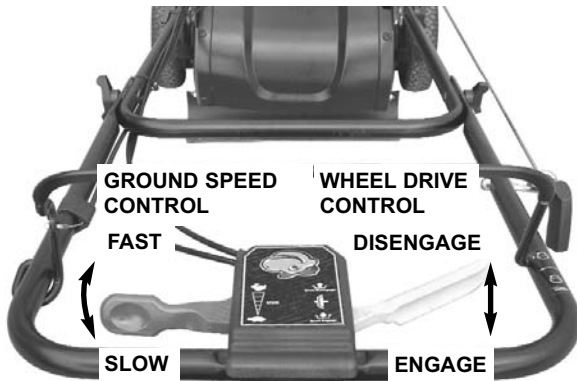

FIGURE 2.6
2. Move ground speed control to the desired speed position. See Figure 2.6.
3. Squeeze wheel drive control against handle to engage wheel drive and propel mower forward. Forward speed can be adjusted while mower is moving by changing position of ground speed control. See Figure 2.6.